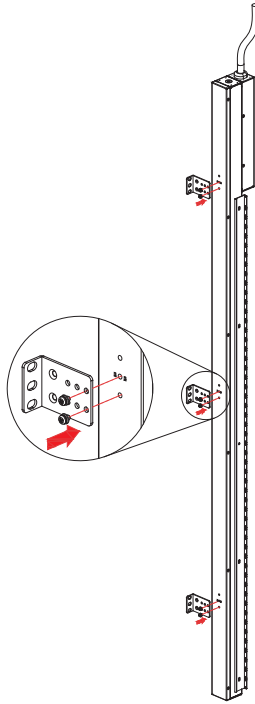

Figure 3
3. Attach the mounting brackets to the PDU using the M4*8mm screws that came with the brackets. See **Figure 3**.